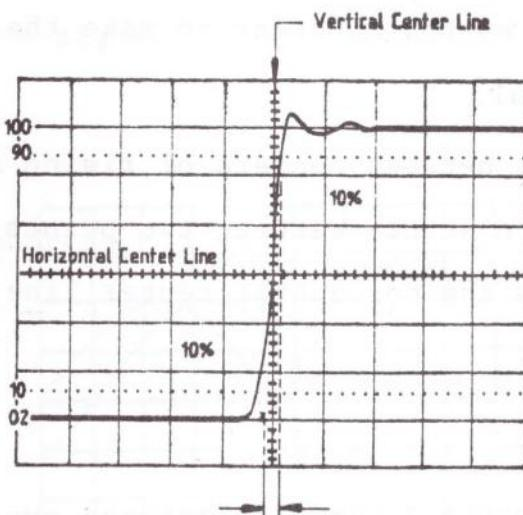

Fig 6-5 Rise(or fall) time measurement
3. Shift and set the lower 10% point of the waveform to the vertical center line of the graticule as shown by the dotted line in Fig 6-5. Read the distance T₂ between the vertical center line and the point at which the rising (or falling) edge crosses the horizontal center line.